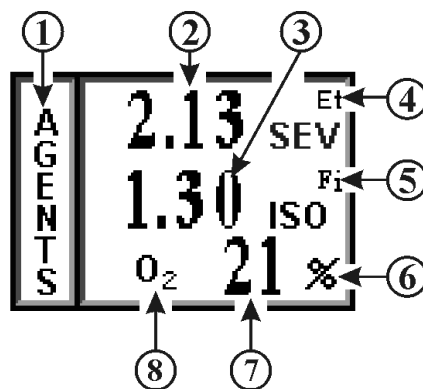

Figure 4-17. Anesthetic Agents Display
4.5.2 Associated Displays. (See Figure 4-17) Anesthetic Agent information is only displayed as numeric data. Agent data can be displayed in Boxes 7 through 10. The Agent identification and measurement are individually performed on both inspired and expired gases. With any two mixtures involving gases Sevoflurane and Isoflurane, the inspired primary anesthetic agent (the gas with the highest concentration) is displayed with its ID and concentration in the Fi location of the Agent Icon box. The expired primary anesthetic agent is displayed with its ID and concentration in the Et location of the Agent Icon box. An alarm sounds and “**MULTIPLE AGENTS**” is displayed any time two or more anesthetic agents are detected. If Halothane or Enflurane are involved in any mixture of anesthetic agents, “---” may appear in the Fi and/or Et location while a pure inspired or expired gas is displayed in its appropriate location. See Tables 4-1 and 4-2 for a complete description of the Agent display during mixed Agent conditions.
4.5.8 Oxygen Monitoring. This parameter is part of the EtCO2/Agents module. That is, it uses the exhaust air from the EtCO2/Agents module as its input and its air flow is controlled by the pneumatic hardware in the EtCO2/Agents hardware module. The O2 value is displayed in the Anesthetic Agents Display (See Figure 4-17).
- a. **Oxygen Module Calibration.** The O2 module is calibrated automatically upon power-up (as described in the NOTE above). Thereafter, is calibrated everytime an O2 CAL is initiated by the user (See the GAS CAL menu (SETUPS/SERVICE(BIO-MED)/GAS CAL) for further information). The operator is prompted that an O2 calibration is required if O2 remains above 22% for 12 hours and, since O2 calibration requires one (1) minute, the operator may reject the calibration request by answering NO to the YES/NO prompt. If NO is selected the operator is then prompted every 30 minutes until the O2 calibration is initiated by a YES response. Calibration is done based on the assumption that the ambient O2 concentration, sensed at the EtCO2 Zeroing Port, is 20.9% (during calibration, the patient GAS Input Port must not be connected to an oxygen source).